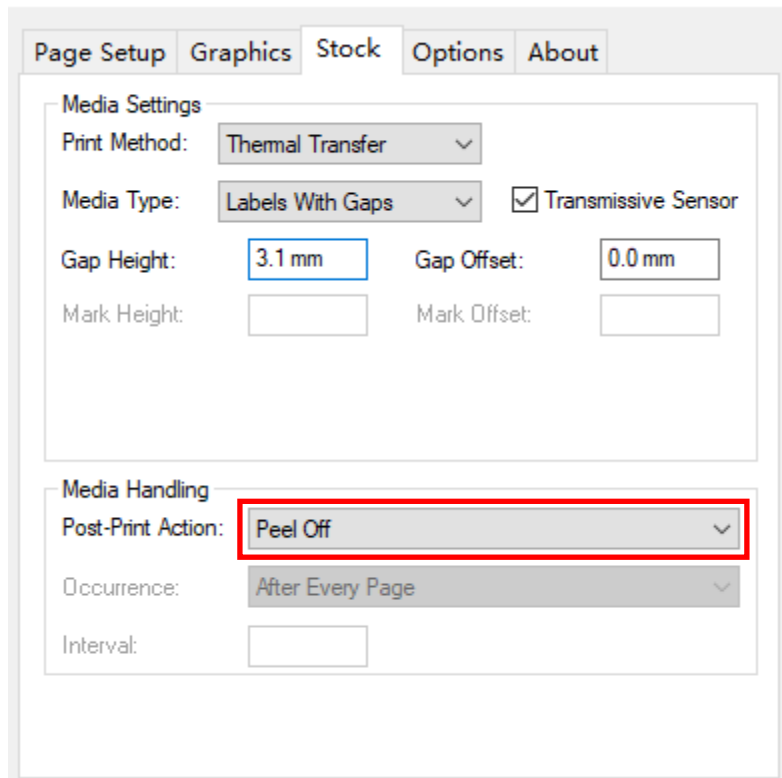

Figure 3-3 Stock Interface
1. Right click at the printer driver icon installed on the PC, select “Printer Preferences” → “Stock” → “Post-Print Action” → “Peel Off” to enable Peeler Mode, as shown in Figure 3-3.